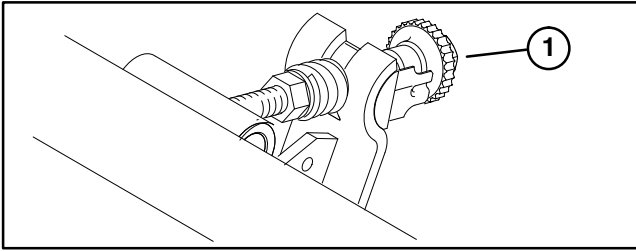

Figure 2
1. A 19 mm ($3/4$ inch) wrench will be needed to rotate bedknife adjustment knob. Each notch on the knob will move the bedknife .0005 inches (Fig. 2). Make sure reel contact is removed by rotating bedknife adjustment knob counterclockwise